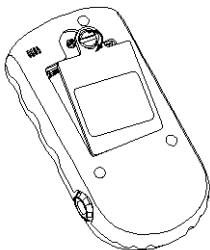

Figure 2-1
- 1) Open the rear panel with coin or an ordinary flat screwdriver, as shown in Figure 2-1.